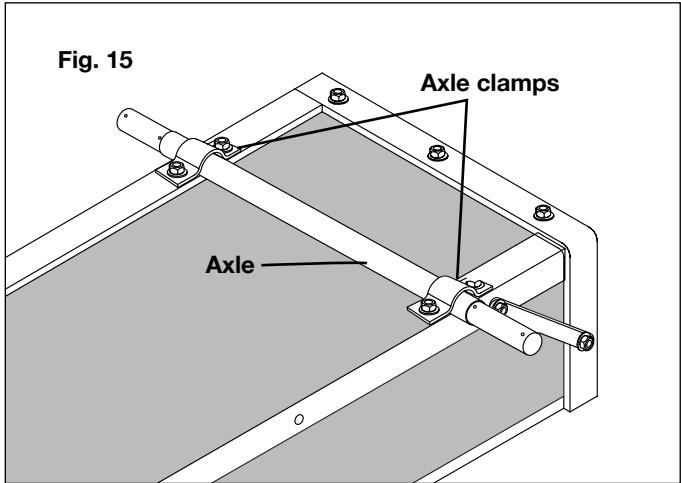

Fig. 15
16. Lay the cart upside down. Slide the axle through the axle clamps (Fig. 15).